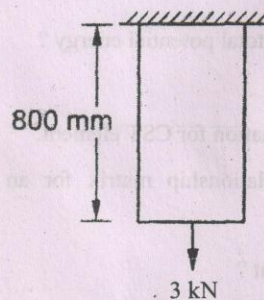

Figure 2
- (b) A steel bar of length 800 mm is subjected to an axial load of 3 kN as shown in fig. 2. Find the nodal displacements of the bar, and load vectors. (16)